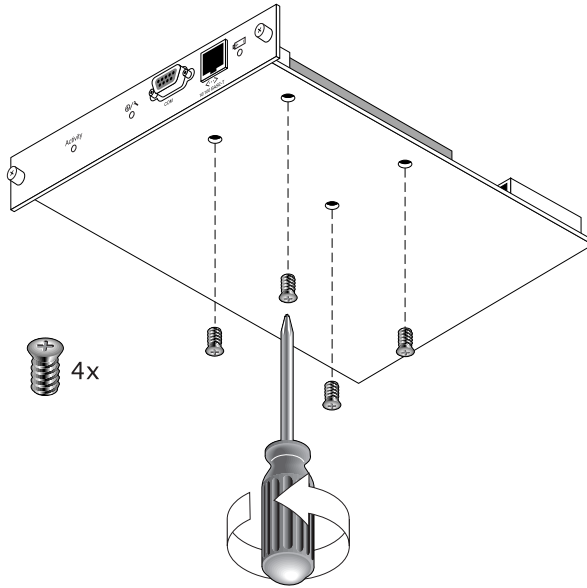

FIGURE 4-5 The Underside of the Battery Module With Screws Being Removed
4. Remove the battery screws on the underside of the module to release the battery from the battery module, similar to the screw removal shown in FIGURE 4-5.